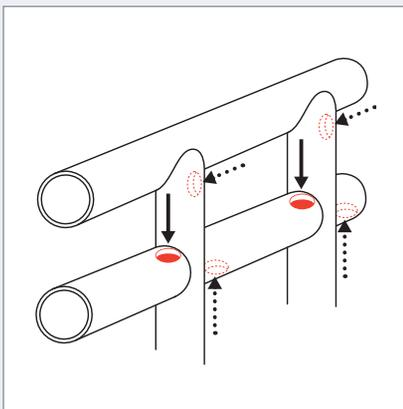
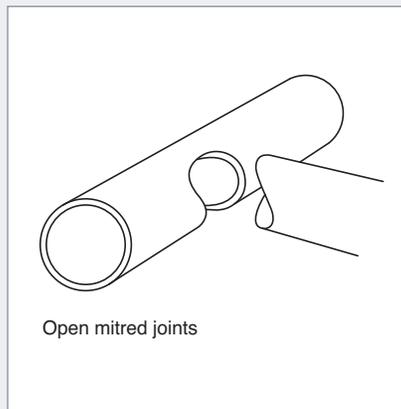
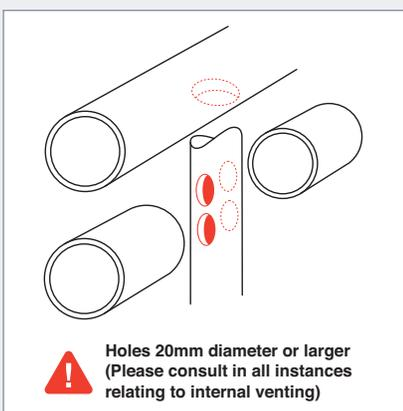

Fig. 15
Fig. 16
Fig. 17
**Welded pipe sections.** Closed sections must never be incorporated. External holes may be positioned (as in fig. 15), enabling our galvanizing experts to make a quick visual inspection to ensure the work is safe to galvanize. Sections can be interconnected using open mitred joints (as in fig. 16), or interconnecting holes drilled before fabrication (as in fig. 17). Pipe ends can be left open or plugged after galvanizing (see unwanted vent holes below).
- With hollow sections sealed at the ends, holes should be provided, again diagonally opposite one another, as near as possible to the ends of the hollow member (fig. 15). In some cases it may be more economical to provide 'V' or 'U' shaped notches (fig. 4) in the ends of the tubes, or to grind the corners off rectangular hollow sections. These procedures will provide ideal means for venting and draining.